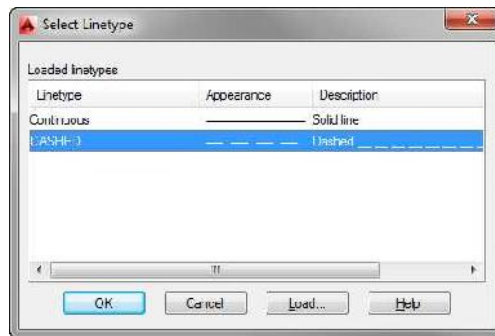

FIGURE 6.15: The Select Linetype dialog box with the Dashed linetype loaded
5. Click DASHED in the left column and then click OK. You're returned to the Select Linetype dialog box. The Dashed linetype has been added to the Linetype list under Continuous (see Figure 6.15).